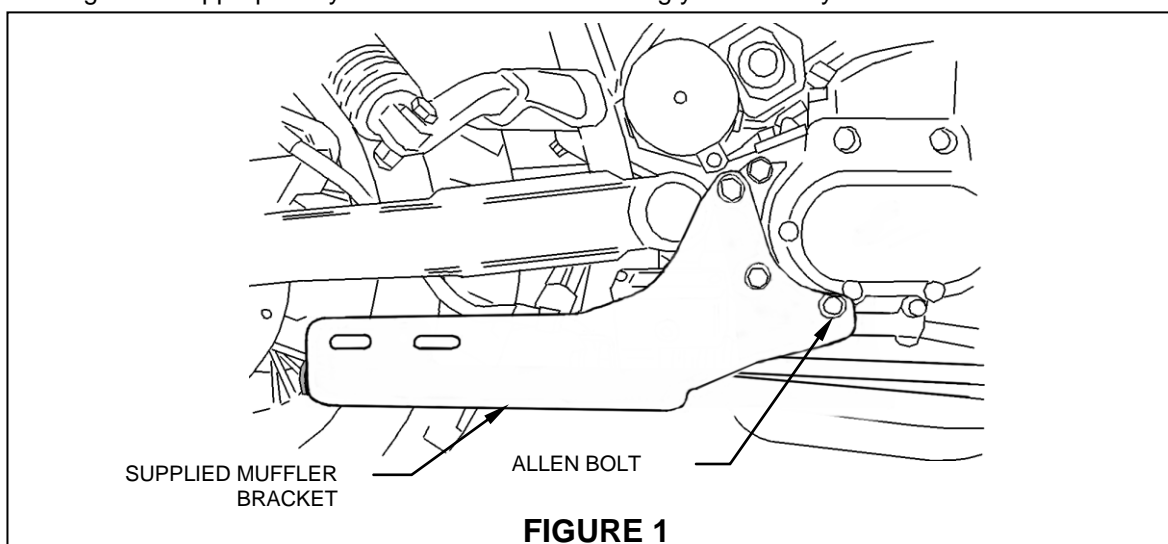

FIGURE 1
4. Remove allen bolt from case and bolt supplied mount to motorcycle (see figure 1) but **do not tighten.**